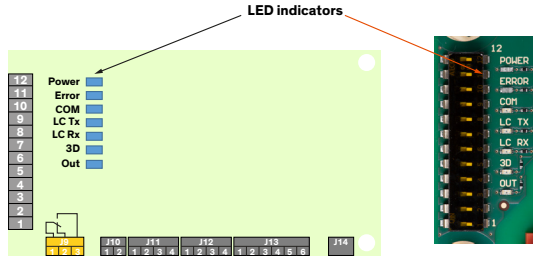

Figure 28: LED indicators sensor interface PCB
- Group one is next to the DIP switches on the sensor connection PCB as shown in Figure 28.